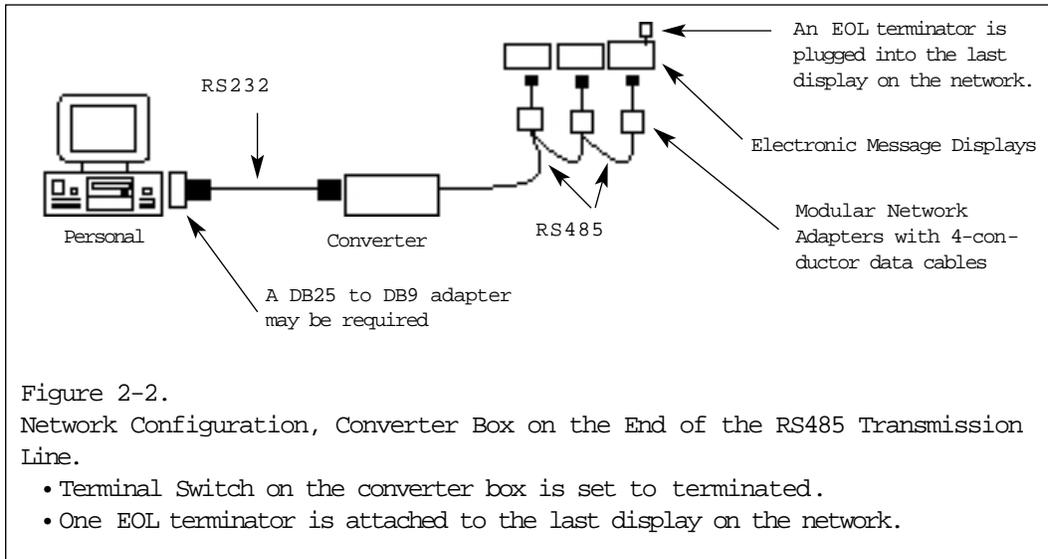

Figure 2-2.
2. Use an RS485 cable to connect the converter box to a modular network adapter. Connect one end of the RS485 cable to the terminal block on the converter box. Connect the other end of the RS485 cable to a modular network adapter by connecting the black wire to the black terminal, the red wire to the yellow terminal, and the shield wire to the red terminal (see figures 2-2, 2-3, and 2-4.)
For example, to connect a second ALPHAVISION display, it must first be connected to its own modular network adapter. This modular network adapter is then connected to the modular network adapter of the first ALPHAVISION display. If a third ALPHAVISION display needs to be connected, its modular network adapter should be connected to the modular network adapter of the second ALPHAVISION display (see figures 2-2 and 2-3.)